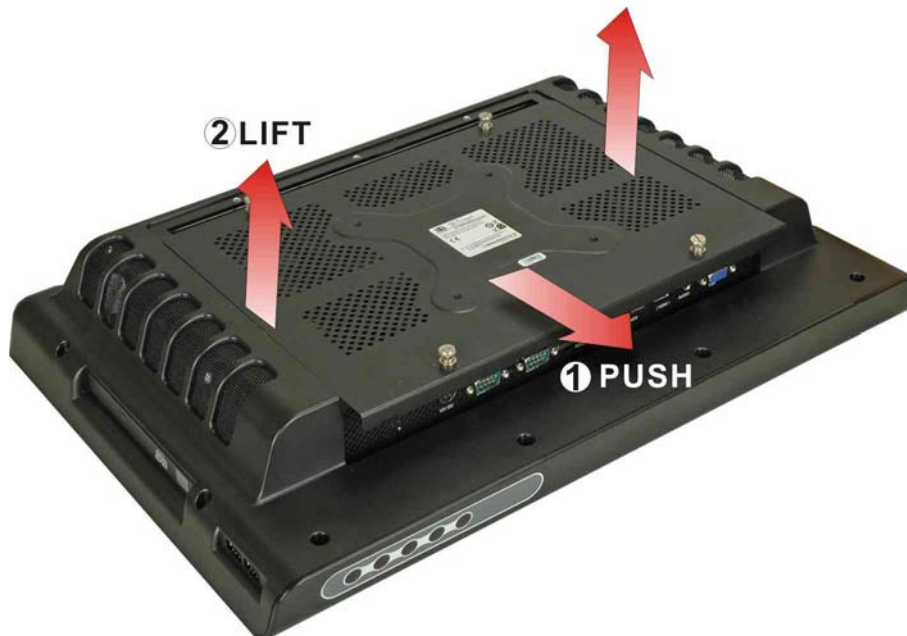

Figure 2-1: Aluminum Back Cover Retention Screws
Step 2: Unfasten the four silver retention screws. The screws will not separate from the cover, just loosen as much as possible (Figure 2-1).